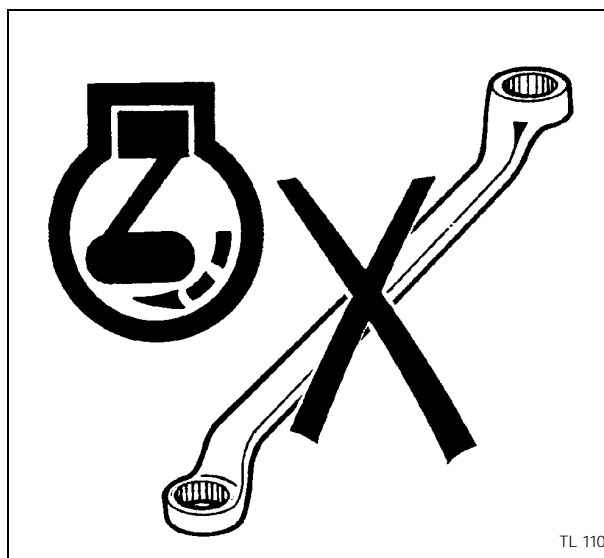

Fig. 13
- DO NOT service the tractor while the engine is running or hot, or if the tractor is in motion (Fig. 13).